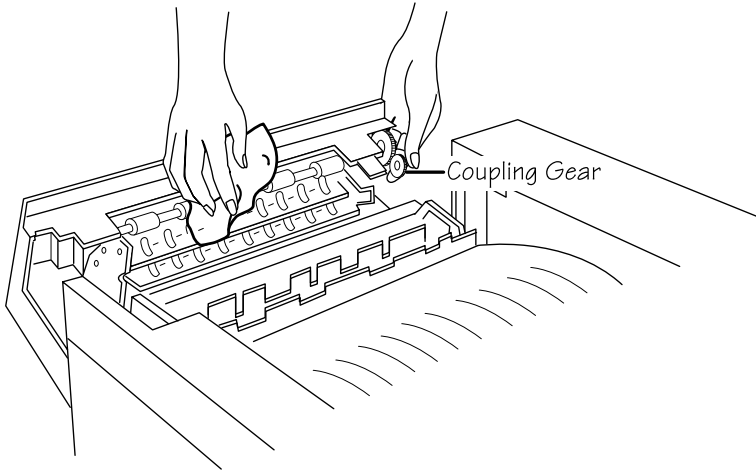

Fig. 6.20 *Clean the Fuser Exit Rollers*
2. Use a dry, lint-free, cotton cloth and gentle pressure to clean the paper exit rollers and plates (fig. 6.20). Turn the coupling